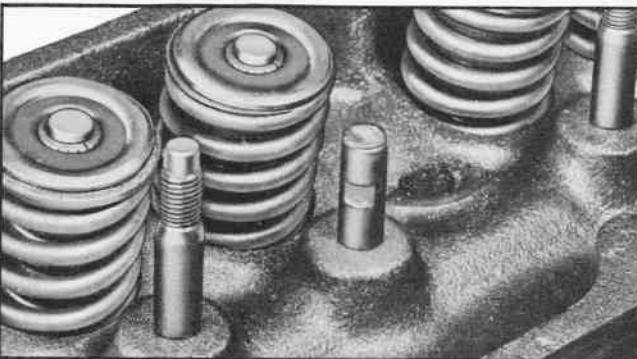

Fig. 3 Stud Filed for Removal
2. File two slots on opposite sides of stud as shown in Fig. 3. Slots should be high enough to allow the engagement of allen screws in J-6392-1 when it is installed on stud over washer J-6392-3.